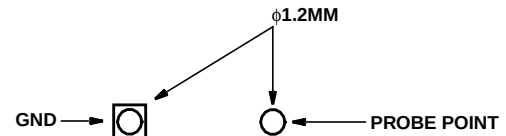

FIGURE 2.
10. Pins P4 to P33 facilitate probe GND connection. As shown in the Figure 2, the distance between the probe point and the GND is 300 mils, and there is 1.2mm throughhole for each probe point. The signal and GND locations are designed for use with a Tektronix GND tip (part number 013-1185-00).